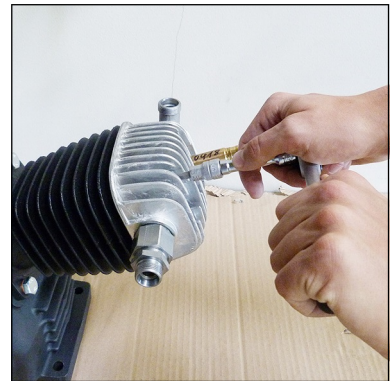

Fig. 1 - Loosen valve head screws
- Loosen valve head screws (Fig. 1)